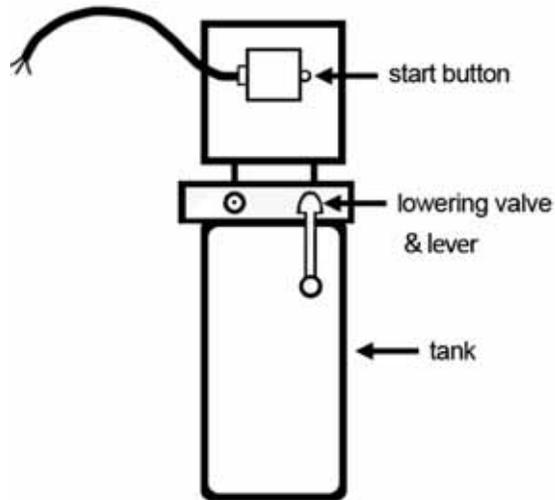

Fig. 6
- A. Push the Start Button on the motor pump to prime the hydraulic oil into the cylinders on the lift. The lift will rise up with lock latch passing over the lock ladder (Fig. 6).
- B. Release the Start Button to stop the lift from rising. Press down on the Lowering Valve Lever and the lift will lower down and automatically engage the next lower lock height (Fig. 6).